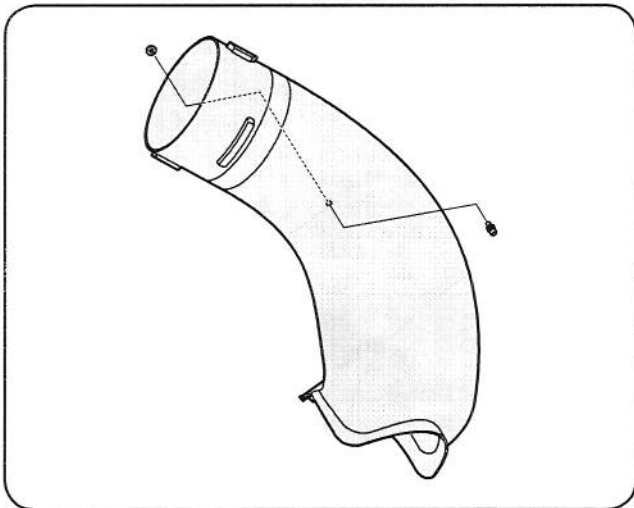

Figure 4-21
12. Install a grass-catcher pin (911-04069) from hardware pack 689-00092B into the hole provided in the upper portion of the chute elbow and secure with a flange lock nut (712-3027). See Fig. 4-21.